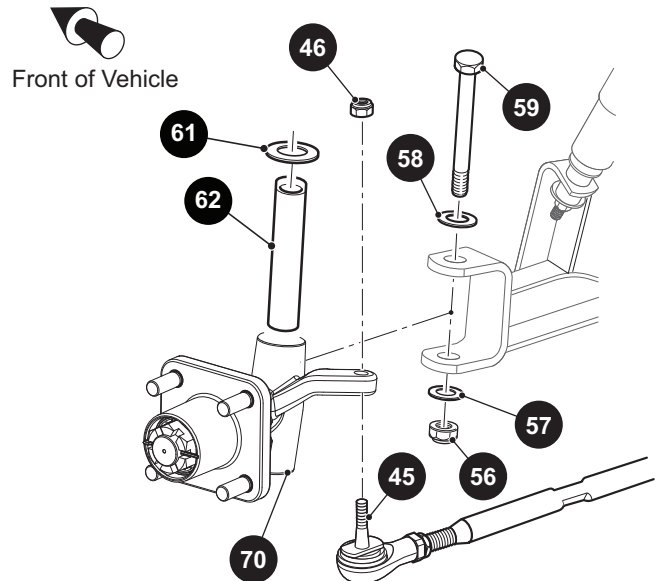

Fig. 15 Spindle Replacement
3. Loosen the lock nut (46) until the tie rod ball joint (45) threads are protected (Ref Fig. 15).
- hammer to release the tie rod from the spindle arm (70).
7. Remove the lock nut (56), washer (57), and bolt (59).
8. Remove the spindle (70) from the axle.
9. Remove the thrust washer (61) and the king pin tube (62) from the spindle.